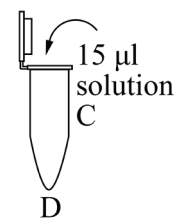

Fig. 10
9. Using the P20 micropipette, transfer 15 μ l solution of tube C to tube D. Hence, the solution in tube D is a 100-fold dilution of the solution in tube C (Fig. 10).